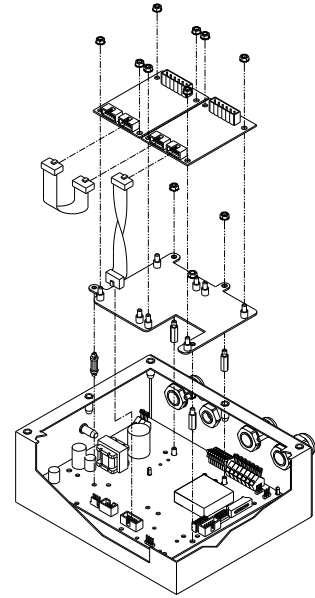

Figure 18: Setpoint Option Board Installation
2. Locate the three studs and one thru-hole on the main board that the option mounting bracket will be attached to. See Figure 18. Remove the nuts from the three studs on the main board.
3. Install the nylon stand-off supplied with the option bracket kit into the thru-hole on the option bracket. See Figure 18. The thru-hole on the option bracket is the irregular flanged section (a smaller hole than the others on the bracket).